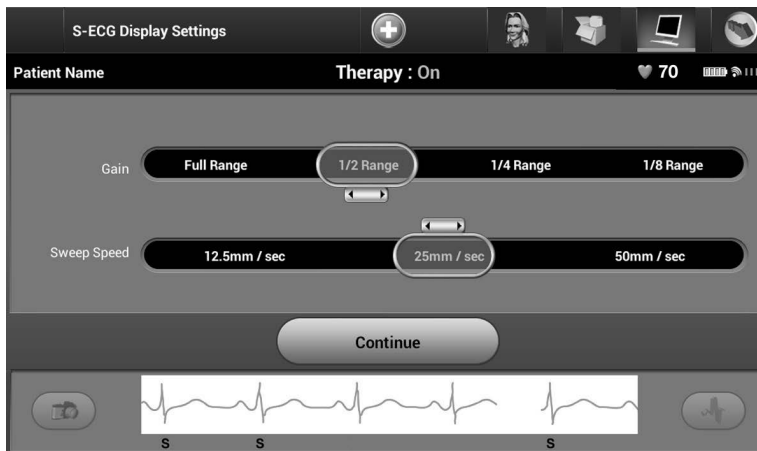

Figure 42: *Adjusting Gain and Sweep Speed*
2. Select and drag the Gain or Sweep Speed Scale bars as desired (Figure 42). The S-ECG scale will change according to the selected setting. The gain setting controls the visual gain. The programmer defaults to Full Range for SQ-RX devices with a gain setting of x1 and to 1/2 Range for SQ-RX devices with a gain setting of x2. The Sweep Speed slider controls the display speed of the scrolling Live S-ECG. The nominal sweep speed setting is 25 mm/sec.